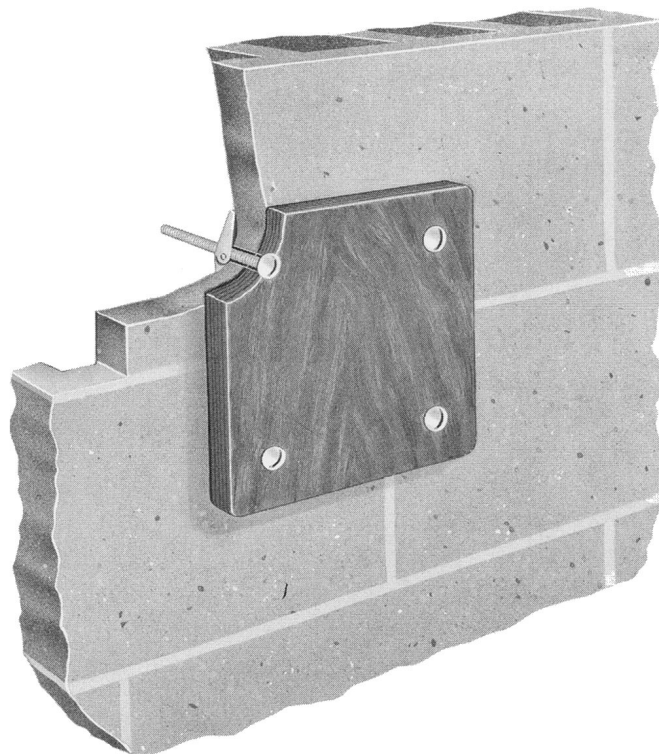

Fig. 12 — KS-5796, List 7 Backboard Mounted on Cinder Block
2.20 The KS-5796 type backboard is designed for use with either one, two, or three 105-type apparatus boxes when mounted on a vertical surface (see Fig. 12).